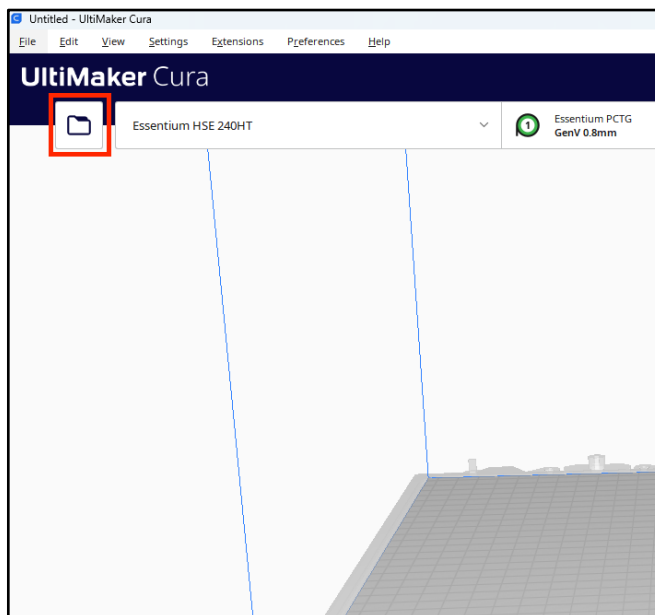

Figure 14: Selecting a Part
21. Click the folder icon in the upper-left corner of the page to select a part (See Figure 14).